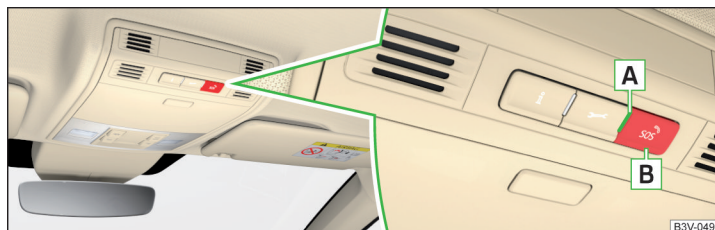

Fig. 11 Emergency call button
- » Press and hold the **B** » Fig. 11 button.
The **system status** is displayed after the ignition is switched on, by the illumination of warning lamp **A** » Fig. 11.